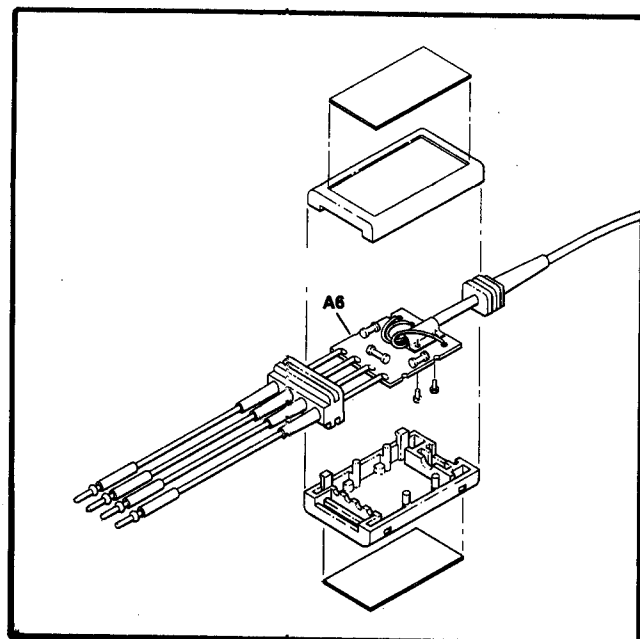

Figure 8-5. Timing Pod Disassembly
a. The Timing Pod halves are secured together by four locking retainers, two located on either side of the pod. To disassemble the pod, insert the tip of a small flat-bladed screwdriver, pressing in on the retainer while gently separating the pod halves. Note the positions of the wire colors as a reminder for reassembly; green = START/ST/SP/, red = STOP/QUAL, yellow = CLOCK, and black $\perp$. See Figure 8-5.